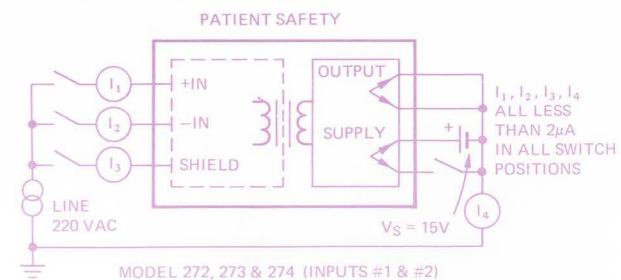

Figure 2
Defibrillator and "fail safe" protection is achieved using passive elements for ultimate reliability. Each model will repeatedly support a 5kV defibrillator pulse from input to output or directly across the ECG input leads, except for model 273J. Eliminated is the need for any additional patient circuit current limiters or other special external devices (spark gaps, neon bulbs, zener diodes, FETs), which tend to degrade CMR, decrease reliability and increase cost. Patient safety test circuits (272, 273, 274) for these designs are shown in Figures 2 and 3.
This design is available to meet the most demanding requirements for amplifier and patient protection simultaneously. Referring to model 272 block diagram and the safety circuits (Figures 2 and 3) the input stage employs a $20M\Omega$ guarded resistor (R) to limit differential fault currents to $10\mu A$ in the event a catheterized patient develops 220VAC between patient-connected high and low electrode. This can occur through an inadvertent connection to power ground through misapplication or via other equipment grounds. Of course, a full 5kV defibrillator voltage is easily supported across the inputs and from all input leads to output common. The price of this protection is a relatively high amplifier noise level (typically $35\mu V/p-p$) arising from the $20M\Omega$ Johnson noise. Model 272J, with ± 3 volt dynamic signal swing and unity gain, is most useful for those designs requiring ultimate safety to both amplifier and patient (or transducer) circuit. It is extremely useful in high radiation environments where strong emission may destroy input circuitry.